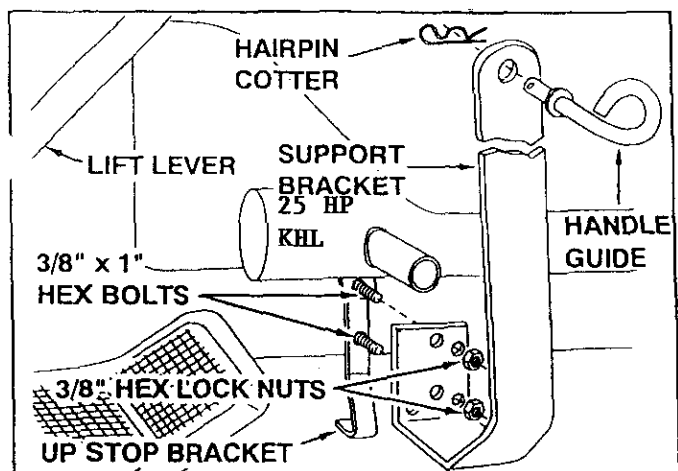

FIGURE 22
22. Assemble support bracket onto right hand side of tractor using two 3/8" x 1" hex bolts inside and secure with 3/8" lock washers, and 3/8" hex lock nuts on outside. See figure 22.
23. Assemble handle guide (with loop outside) at top of support bracket and secure with one hairpin cotter inside. See figures 22 and 23.